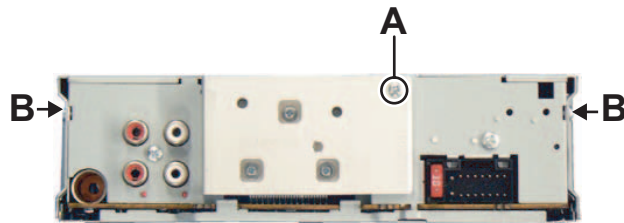

Fig.2
3.1.2 Removing the Main pwb ass'y (See Fig.2 to 5)
(See Fig.2)